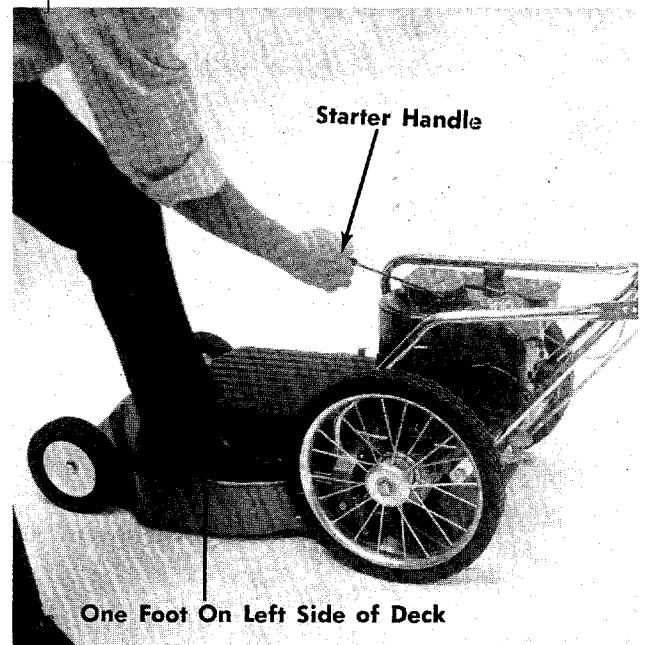

FIGURE 28. STARTING
4. Place one foot on the left side of the deck. See figure 28.
5. Grasp the starter handle and pull out sharply and hold it in the out position. (Do not let cord snap back.) The cord should not be pulled out more than about two feet. If the engine fails to start, allow the cord to wind back into the housing, then pull out sharply again. Refer to figure 28.